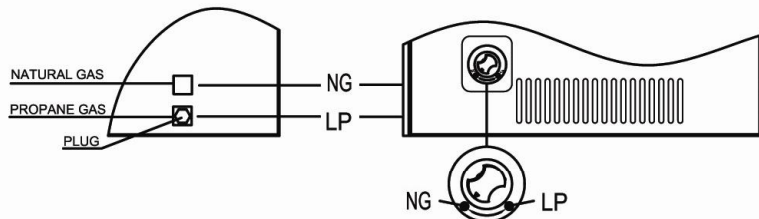

Figure 13
2. For NATURAL GAS, press in knob using a flat screw driver with a blade the thickness of a quarter and turn knob clockwise  until the knob locks into the NG position (see figure 13). Selection valve must be locked into either the NG position. Do not operate heater between locked positions!